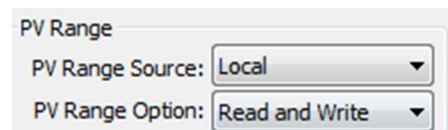

Figure 5.53 PV range mode selection
1. Select "detailed Design"->"PV range" in the drop-down box corresponding to"Pv range operating mode", which includes read-only and read-write, as shown in Figure 5.53